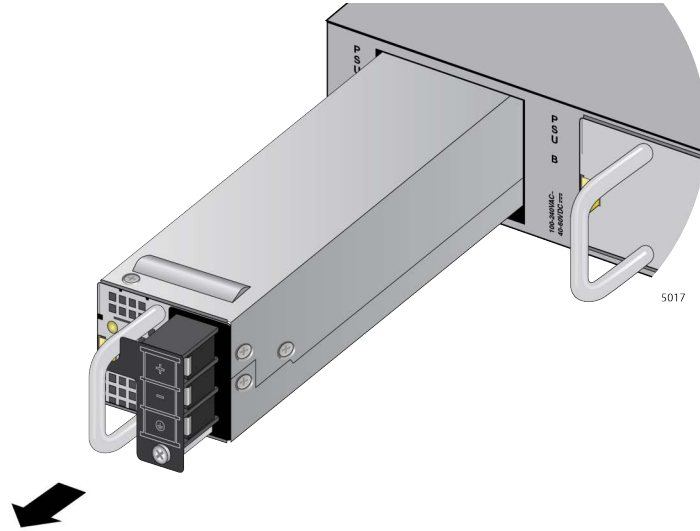

Figure 153. Removing the PWR600 DC Power Supply
7. Carefully slide the power supply from the switch. Refer to Figure 153 on page 260.